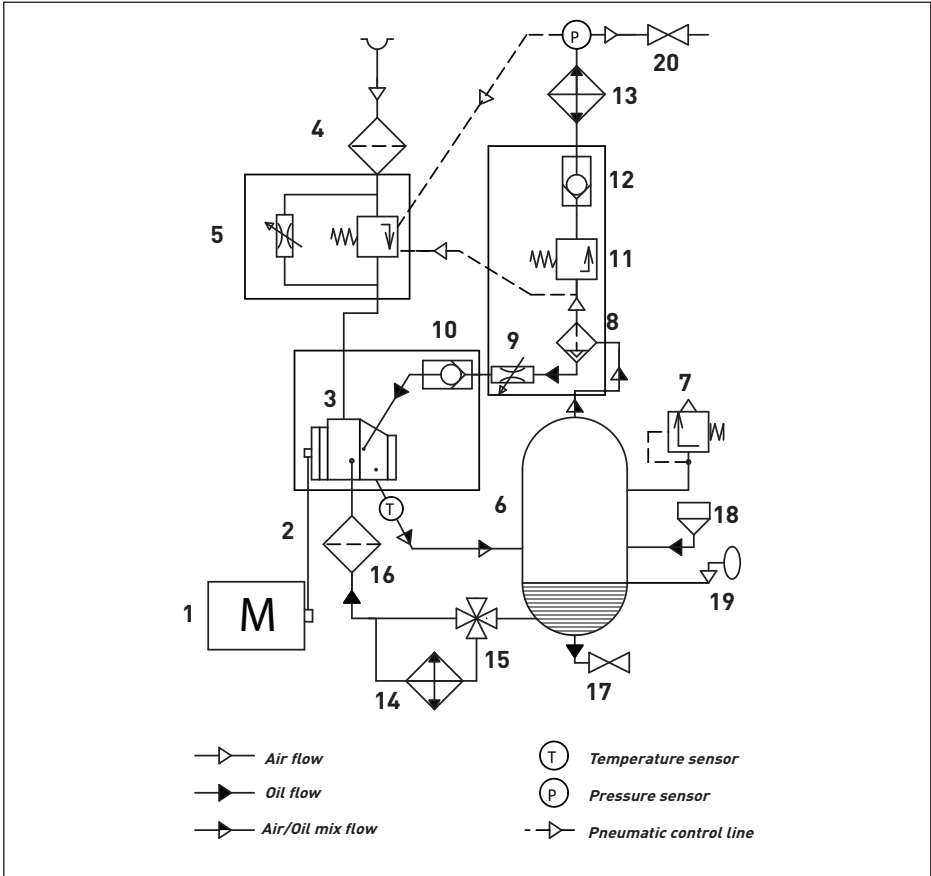

Fig. 2.3 Function diagram FV30-55
2.4 Functional description (see Fig. 2.3)